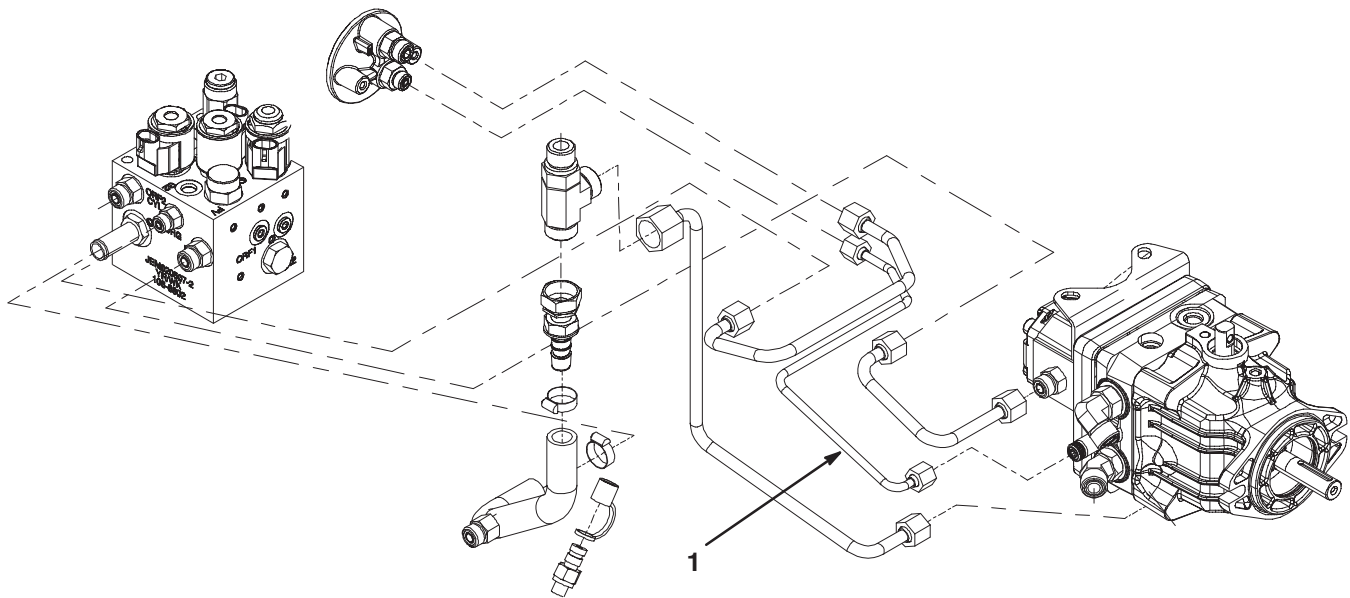

Figure 10
- Install new 1/4" tube (108–6812) between filter OUTLET and center port on pump (Fig. 10).